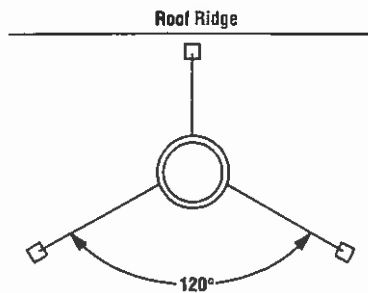

Figure 29
Step 9. FireCraft locking bands, Model FLB, may be required if the chimney extends too high above the roof flashing. As a general rule, if the chimney extends more than 6' above the roof flashing, the use of locking bands is advisable to strengthen the chimney assembly. Align the locking band at the chimney joint. Locking bands wrap around pipe joints equally covering the joints of both pipe sections. Use the nut provided and TIGHTEN snugly. Do not overtighten as this might damage the chimney section (refer to Figure 29).
Note: If chimney extends more than 8' above roof surface, guy wires are also recommended. Use three (3) guy wires, attach to locking band assembly, extend and secure to roof in a triangular pattern (Figure 29). Guy wires are not supplied by the manufacturer.